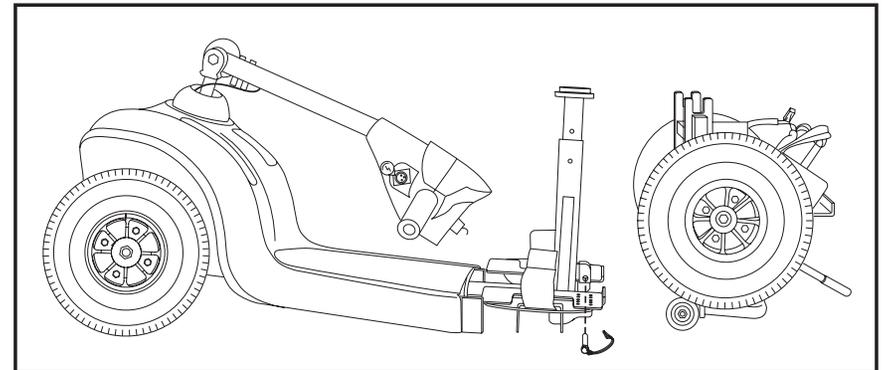

Figure 15. Frame Positioning
1. Position the front and rear sections of your scooter as shown in figure 15.